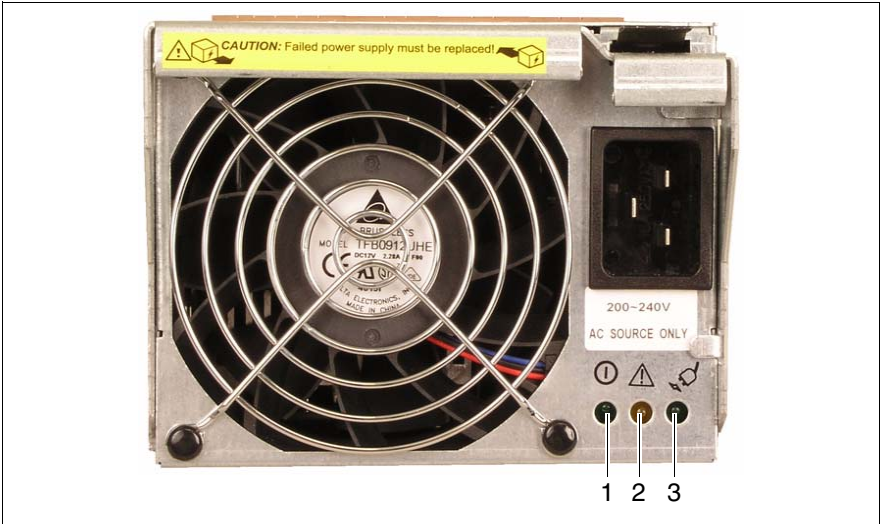

Figure 76: Power supply unit: LEDs
¹If the large fan on the front fails, the power supply unit switches off. If one of the small fans on the rear fails, the power supply unit continues to run. See figure 76 for the location of the power supply unit fans.
- ▶ Check the FAN LED of the power supply units on the back of the system (see figure 76 on page 132) to determine which power supply unit is defective.